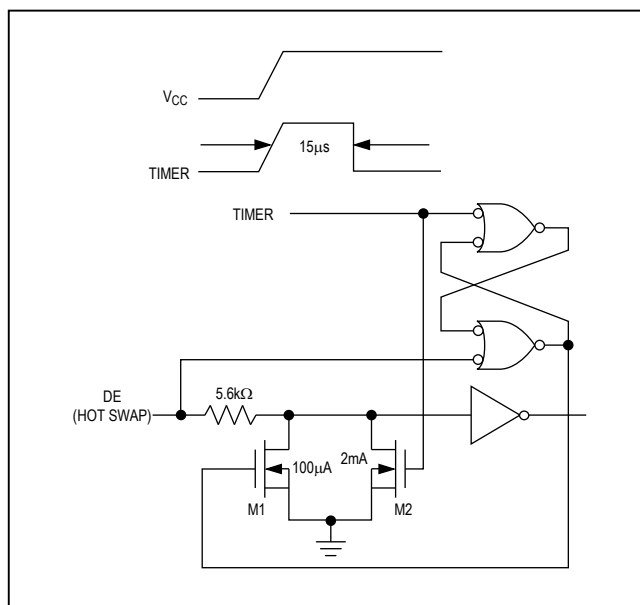

Figure 10. Simplified Structure of the Driver Enable Pin (DE)
At the driver-enable input (DE), there are two nMOS devices, M1 and M2 (Figure 10). When V_{CC} ramps from zero, an internal 15 μ s timer turns on M2 and sets the SR latch, which also turns on M1. Transistors M2, a 2mA current sink, and M1, a 100 μ A current sink, pull DE to GND through a 5.6k Ω resistor. M2 pulls DE to the disabled state against an external parasitic capacitance up to 100pF that may drive DE high. After 15 μ s, the timer deactivates M2 while M1 remains on, holding DE low against three-state leakage currents that may drive DE high. M1 remains on until an external current source overcomes the required input current. At this time, the SR latch resets M1 and turns off. When M1 turns off, DE reverts to a standard, high-impedance CMOS input. Whenever V_{CC} drops below 1V, the input is reset.